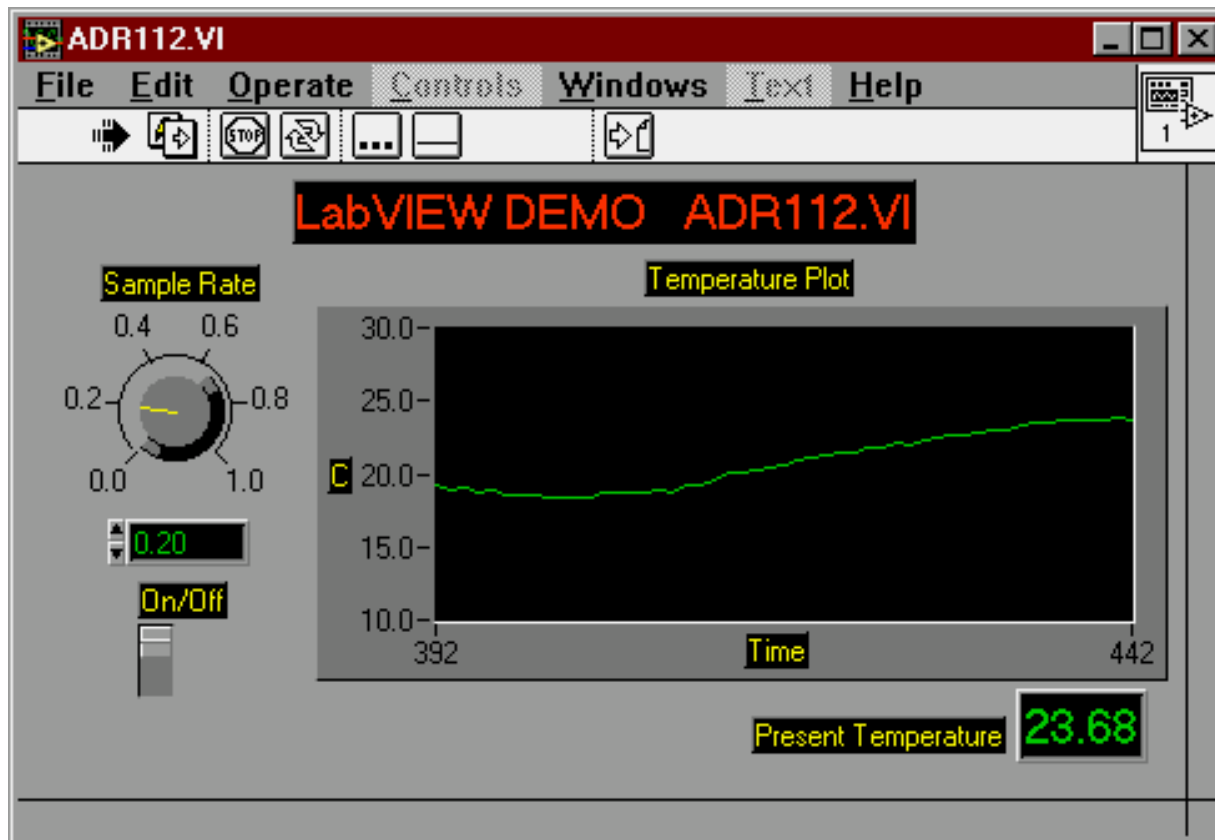

Figure 12 : Final Panel
- The display can then be customized to give the VI a more pleasing appearance. See your user manual for the various customizing options. The scale of the graph can also set using the hand icon to whatever range is to be measured in the application. Our final version was saved as "ADR112.VI" as appears as in Figure 12